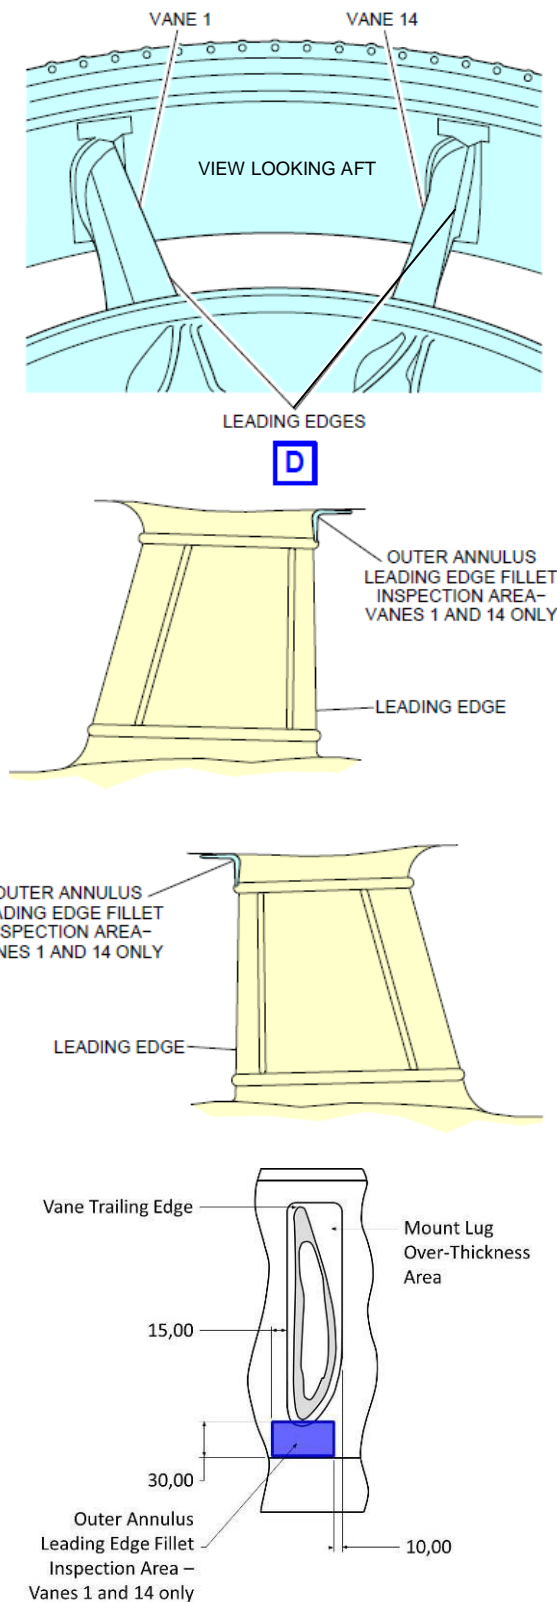

Figure 2 - Mount Lug Forging LE Area
- (i) Clean the inspection areas (See Fig. 2) with a clean OMat 2/101 – lint free cloth moistened with OMat 150 – acetone.
- (v) Apply OMat 632 penetrant to the inspection areas in Fig.2. The penetrants must be dispensed from a sealed aerosol can and any unused penetrant must go to waste.